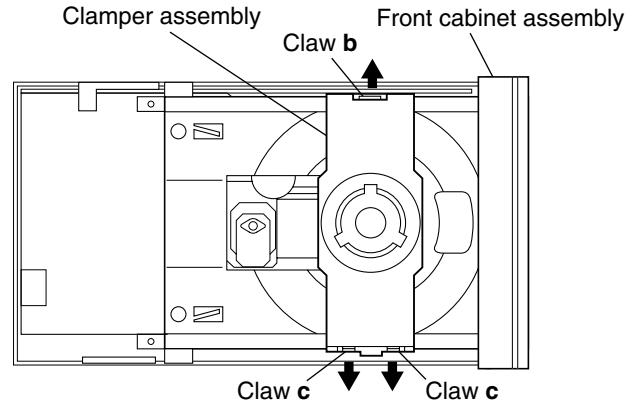

Fig.8
## ■ Replacing the CD pickup unit (See Figs. 8 to 11.)
2. Remove the top cabinet. (See Figs.8 and 9 "Main body section" on page 1-8.)
3. From the top side of the main body, open up the claws **b** and **c** on the left and right of the clamer assembly in the direction of the arrows and lift the assembly to remove it. (See Fig.8.)